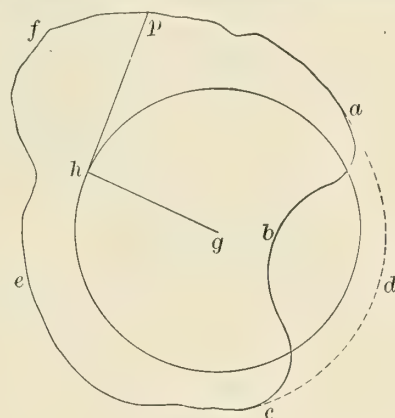
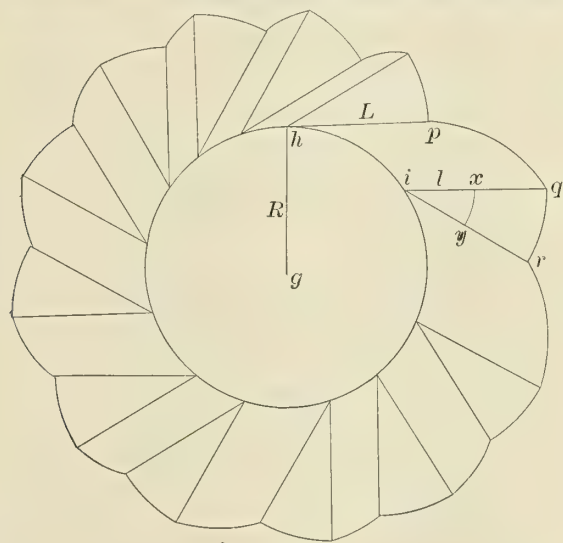

FIG. 13.
FIG. 12.
The way in which the planimeter measures such a figure may be investigated by aid of a diagram like Fig. 12, which is drawn by first moving the tracing-arm parallel to itself, as from  $hp$  to  $iq$ , and then pivoting it about the hinge, as from  $ig$  to  $ir$ , and so on alternately entirely round to the starting-point. The area of the figure is made up of three parts: (1) The sum of the areas of the parallel-sided figures, like  $hpqi$ , which are properly measured and recorded by the planimeter; (2) the sum of the sectors, like  $qir$ , which
In Fig. 12 twelve sectors of  $30^\circ$  each were chosen so that it shall be more immediately evident that this sum is a circle having the tracing-arm for a radius. But it is evident that the sum of such sectors, whatever their angle, must be a circle, since the arm makes one complete revolution in passing round from  $hp$  to  $hp$  again, while the outline of the figure is traced. An approximation to any figure having a form like Fig. 12 can be obtained by taking a sufficient number of figures like  $hpqi$  and sectors like  $qir$ ; or if the true outline is traced the planimeter will give the basis for determining the area, allowing for the constant. Moreover, the planimeter can be used to measure a diagram like Fig. 13, which lies partly outside and partly inside the circle described by the guiding-arm  $gh$ . For it is clear that we can apply this method for measuring the figure  $adcef$ , and that we may (after returning the tracing-point to  $a$ ) subtract the area  $abcd$  by tracing it in that order, i. e., toward the left; but since the dotted line  $adc$  will in that case be traced twice, once forward and once backward, we will get the same result by omitting it, that is, by tracing the outline  $abcef$  in the first instance.